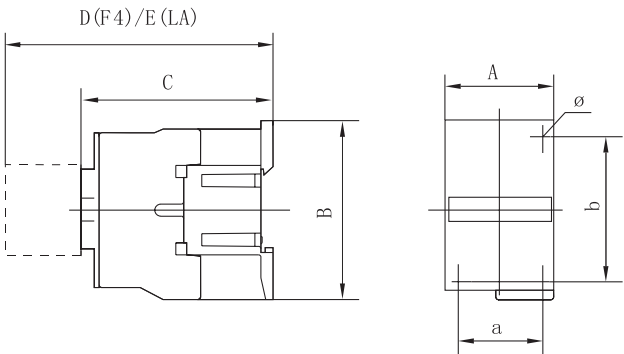
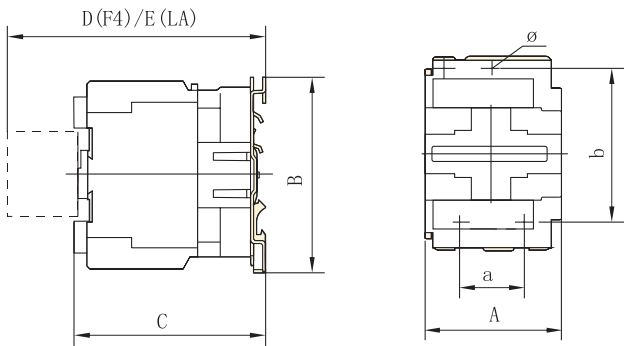
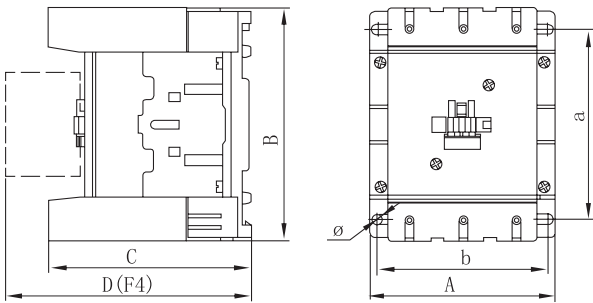

Fig. 1 CJX2-09~32 outline and installation dimensions
Fig. 2 CJX2-40-95 outline and installation dimensions
Fig. 3 CJX2-115-170 outline and installation dimensions
7.1 Outline and installation dimensions of product (see Fig. 1, Fig. 2, Fig. 3, and Table 7)